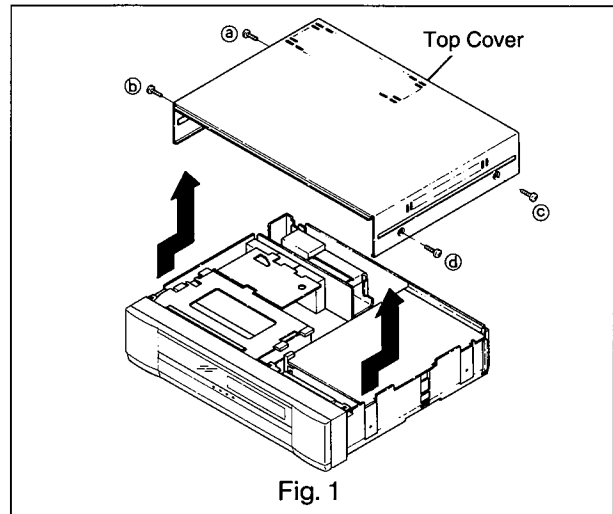

Fig. 1
The test sequence, with reference to the measuring circuit in Fig. 1 is as follows:
- A. Remove the four screws (Ⓐ~Ⓓ) retaining the Top Cover, as shown in Fig.1.